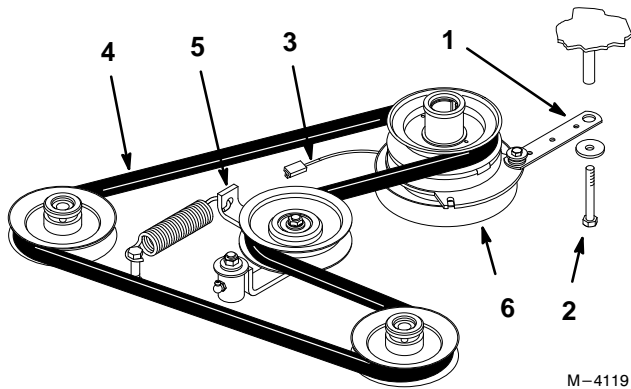

Figure 46
1. Remove bolt from clutch strap and unplug clutch electrical wire. (Fig. 46).
2. Pull spring loaded idler to side. Remove traction belt from the engine and hydro pump pulleys (Fig. 46).
3. Install new belt around engine and hydro pump pulleys (Fig. 46).
4. Pull spring loaded idler to side and align belt. Release pressure on spring loaded idler (Fig. 46).